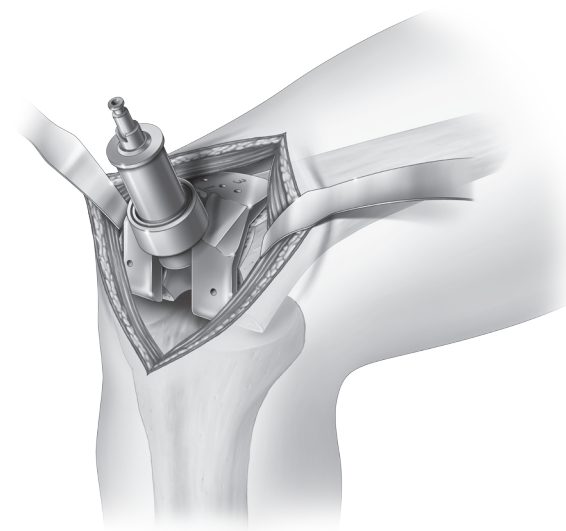

Figure 1
Step 5: Apply light pressure to the Notch Cutter as it travels posteriorly and ream until the Notch Cutting Guide prevents the Notch Cutter from further travel (Figure 1).